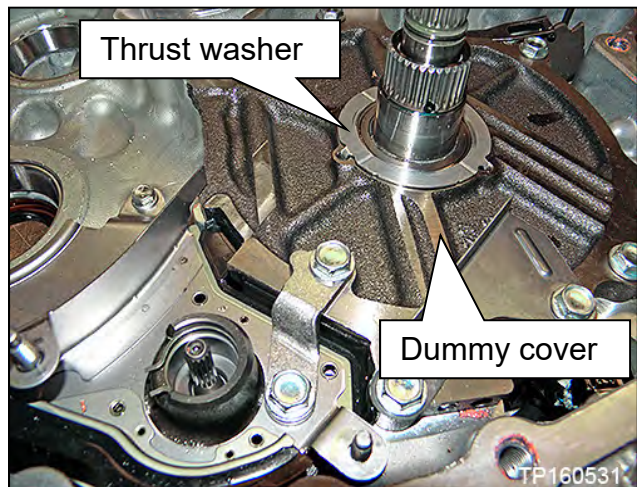

Figure 43
24. Remove the pump cover (dummy cover) thrust washer (Figure 43).